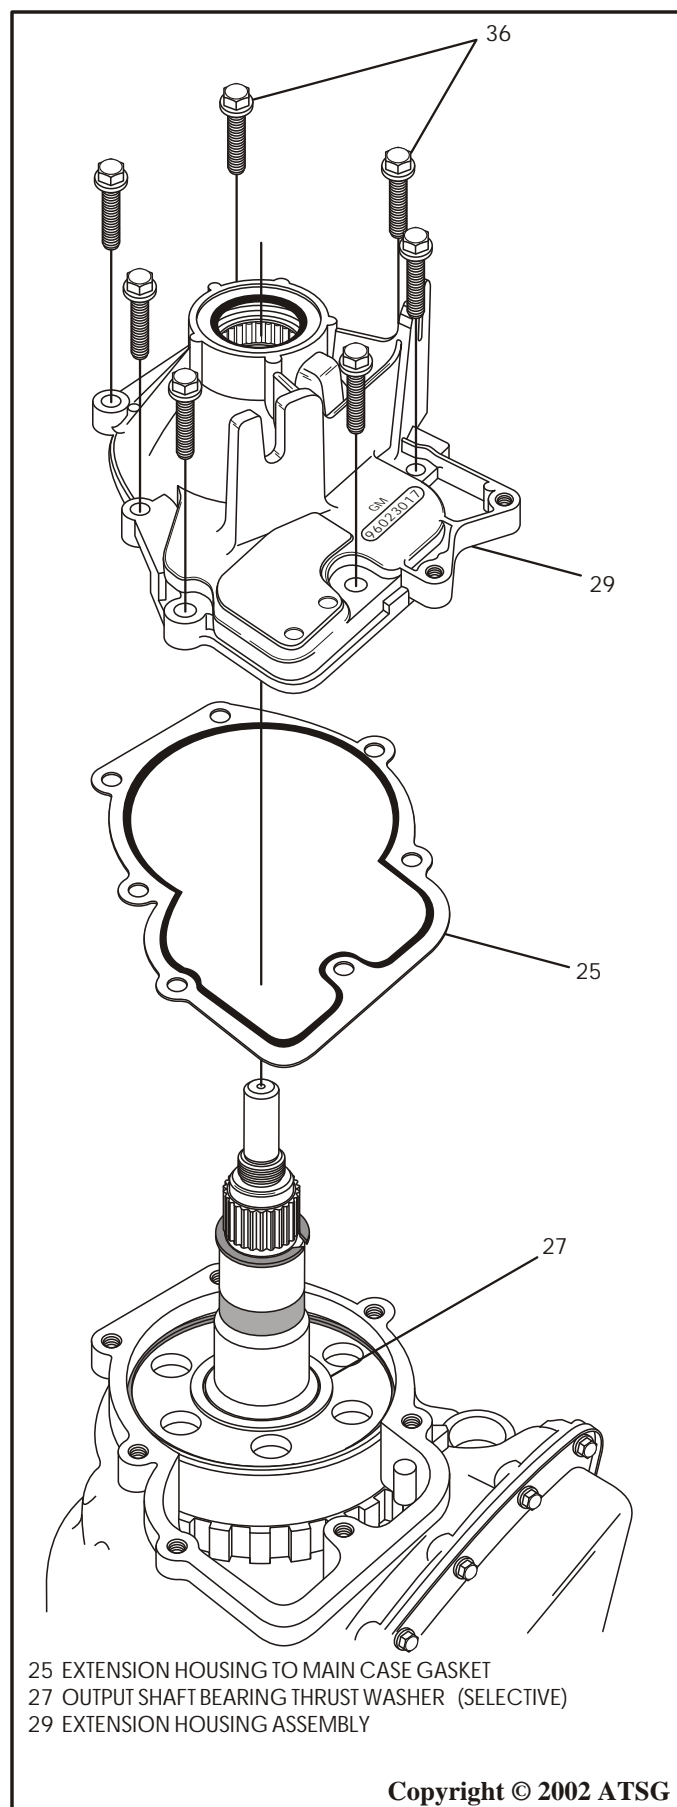

Figure 32
9. Remove the seven extension housing to case retaining bolts, as shown in Figure 32.
10. Remove the extension housing assembly, as shown in Figure 32.
11. Remove and discard the extension housing gasket, as shown in Figure 32.